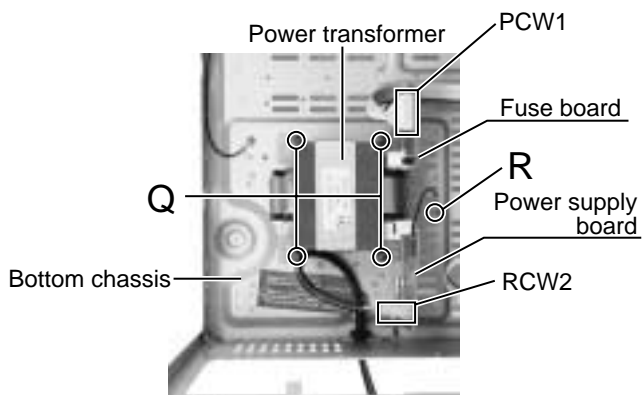

Fig.17
■Removing the power transformer (See Fig .17)